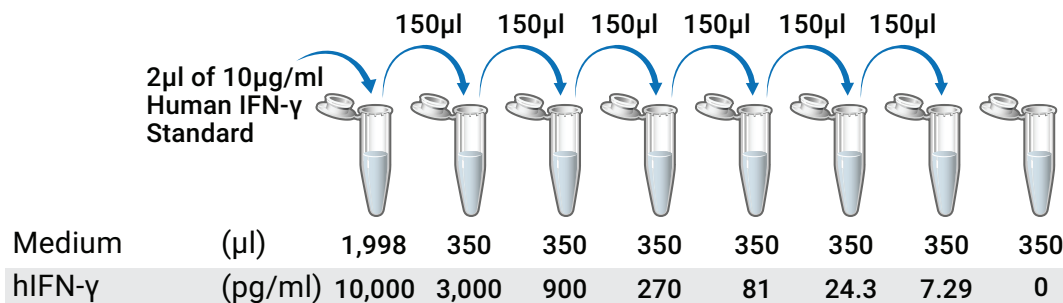

Figure 3. Human IFN- γ dilution series.
3. Prepare an initial concentration of 10,000pg/ml human IFN- γ by diluting Human IFN- γ Standard (10 μ g/ml) 1:1,000 in prewarmed cell culture medium. For example, prepare 2,000 μ l of 10,000pg/ml human IFN- γ by adding 2 μ l of Human IFN- γ Standard stock to 1,998 μ l of culture medium (see Figure 3).
3. Prepare an initial concentration of 10,000pg/ml human IFN- γ by diluting Human IFN- γ Standard (10 μ g/ml) 1:1,000 in prewarmed cell culture medium. For example, prepare 2,000 μ l of 10,000pg/ml human IFN- γ by adding 2 μ l of the Human IFN- γ Standard stock to 1,998 μ l of culture medium (Figure 3).